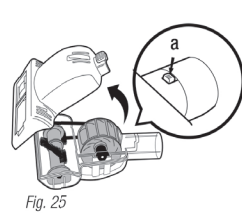

Fig. 25
- Slide the locking latch (a) forward and tilt the bottom cover upward to remove. (Fig. 25)